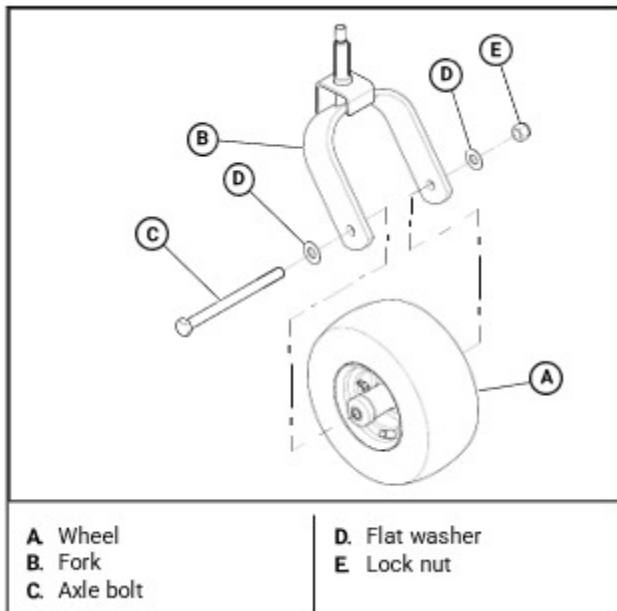

Figure 36
3. Remove the wheel from the fork by removing the axle bolt, flat washers, and lock nut. [Figure 36]